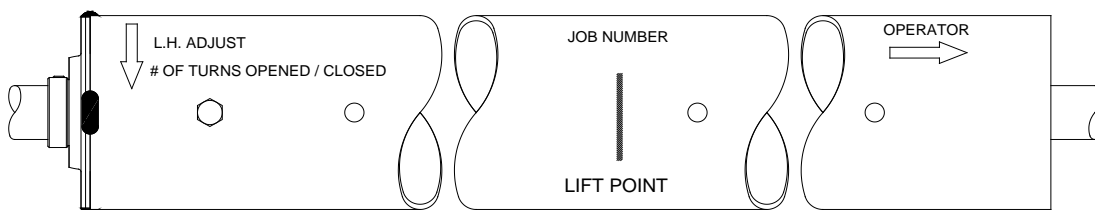

Figure 6.1 – Barrel Markings (left hand adjust shown)
2. Unpack the barrel assembly. Note the markings on the barrel, see **Figure 6.1** below.
4. Check to make sure the required number of turns is noted on the barrel, as shown in **Figure 6.1**. Consult the distributor or the manufacturer if you cannot locate this information. Check that these numbers match the information provided on the job information. Take note of these numbers, as access to this information may be obstructed once the curtain is installed.
- **Crane Hoisting:** Place a sling or lifting agent under the barrel assembly at the “lift point” provided on the barrel, see **Figure 6.1**.
- **Forklift Hoisting:** Space the forks evenly under the “lift point” provided on the barrel, see **Figure 6.1**. Ensure that the barrel assembly is positioned close enough to the tips of the forks that the fastening holes in the bracket can be aligned with those of the guides without the forks contacting the wall. Secure the barrel assembly to avoid the slipping off the tip of the forks.